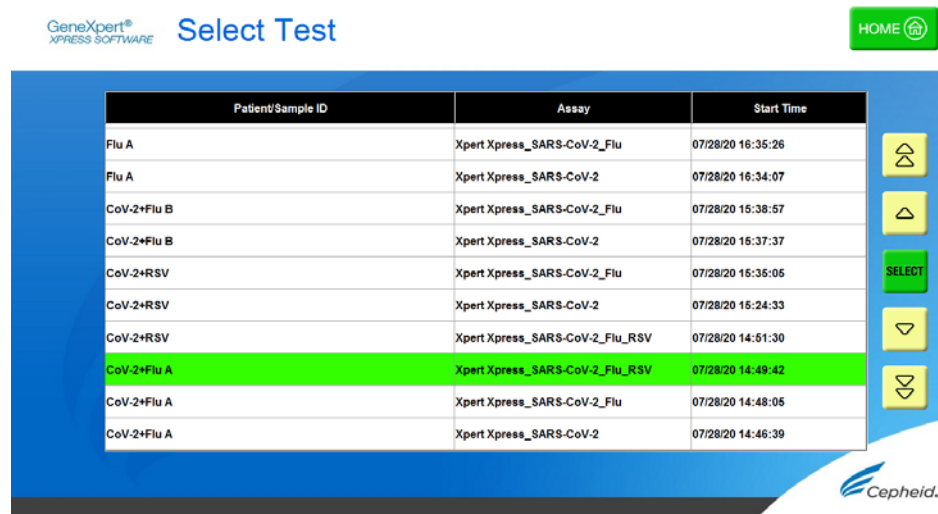

Figure 13. SELECT button
3. Touch the **SELECT** button shown in Figure 13 to view results.